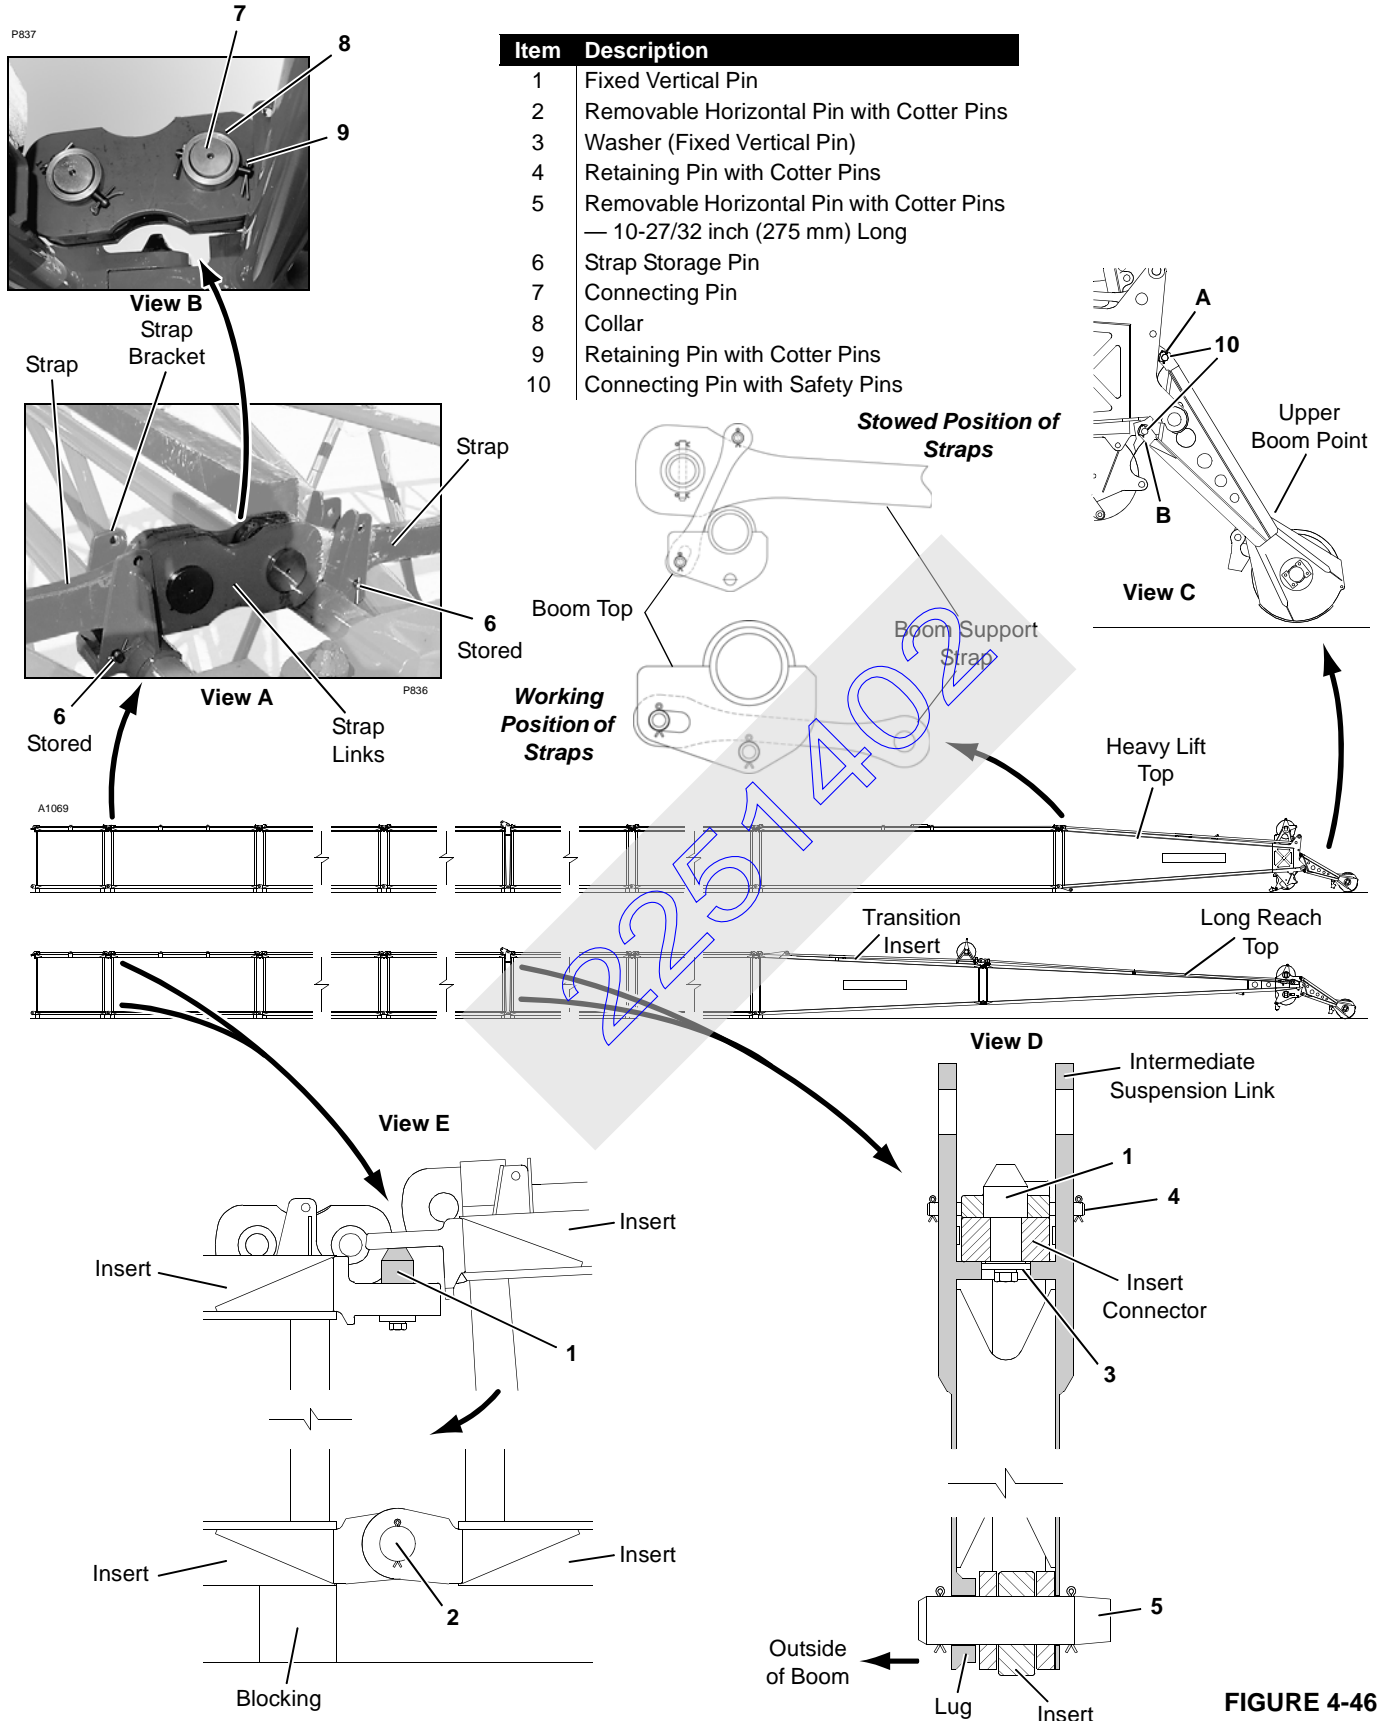

FIGURE 4-46
- The top connectors are joined by fixed vertical pins that hook into holes in the adjacent section (Figure 4-46, View E).
- The bottom connectors are joined by removable horizontal pins (Figure 4-46, View E).
See Figure 4-46 for following procedure.
2. Align upper connecting holes (A, Figure 4-46, View C) and install connecting pins (10).
4. Install lower connecting pins in holes (B) when boom is raised.
2	Connecting Pin with Collar and Retaining Pin (Figure 4-46, View B)